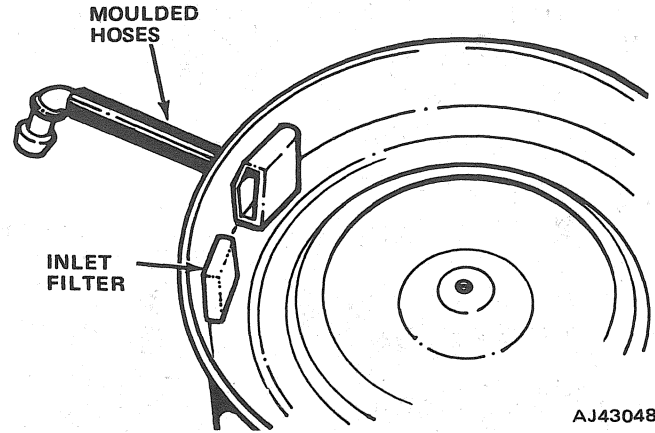

Fig. 1J-152 PCV Air Inlet Filter—Four- and Six-Cylinder Engines
(1) Rotate retainer to remove from air cleaner (fig. 1J-152).
- (2) Clean filter in kerosene.
- (3) Install filter and retainer in air cleaner.